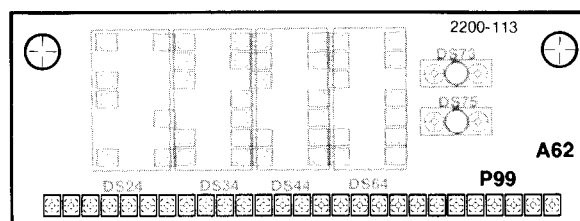

Fig. 5-14. Replacing the Readout Board (A62).
**Replacing the Readout Board (A62) (See Fig. 5-14)**